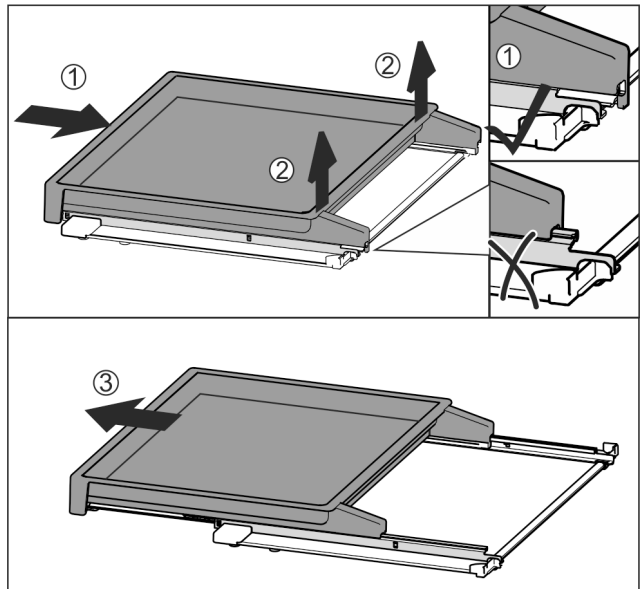

Fig. 109
- ▶ Slide the pull-out board all the way in Fig. 109 (1).
- ▶ Release the clips at the back Fig. 109 (2).
- ▶ Remove the pull-out board from the front Fig. 109 (3).